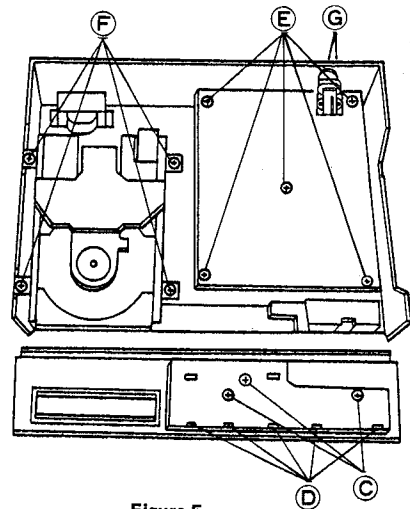

Figure 5
Remove the front panel, connectors P401 and P402, the three screws (C), and catches (D). (Figure 5)
Remove the cover and the five (E) screws and (G) screws holding the output jack (Figure 5).